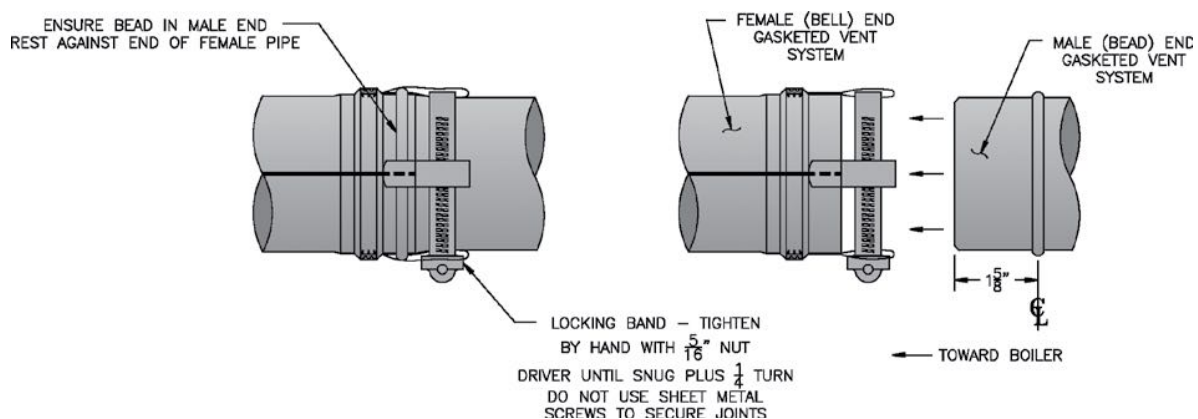

**Figure 3A: Burnham Gasket-Less Vent Joint Detail**
1. Procedure for Joining Burnham Gasket-Less Vent Pipe and Fittings. See Figure 3A.